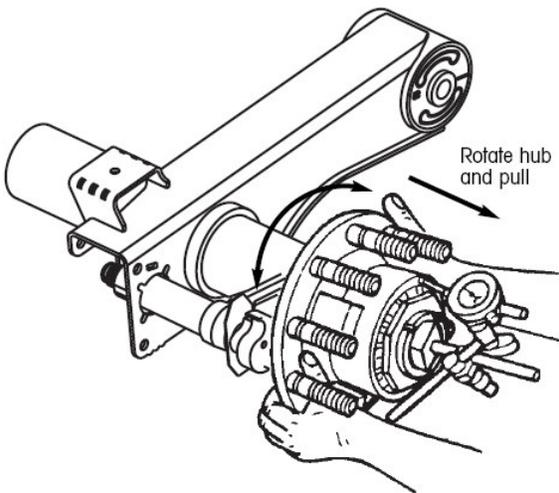

Figure 7
5. Grasp the hub at the three and nine o'clock positions. Rotate the hub in both directions while pulling the hub **OUTWARDS** until the dial indicator reading remains constant. *See Figure 7*